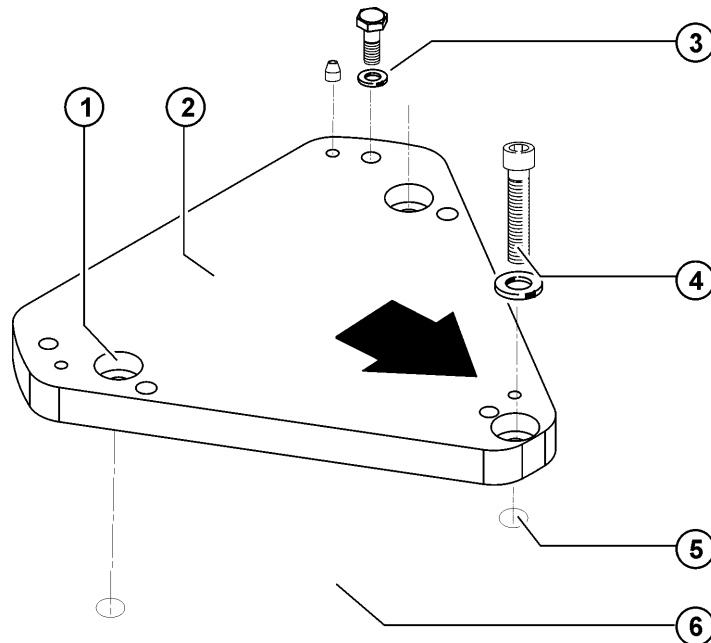

Fig. 8-4: Adapter plate, installation
1. Clean the mounting surfaces of the robot and of the mounting base (>>> Fig. 8-4).